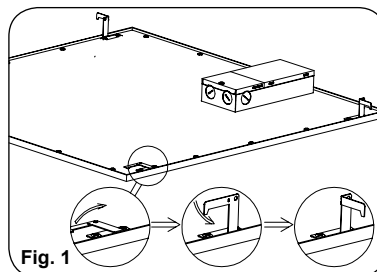

Fig. 1
2. Lift up four mounting clips on the sides of the luminaire. You can do it by hand (wear work gloves) or use pliers. (Fig. 1)